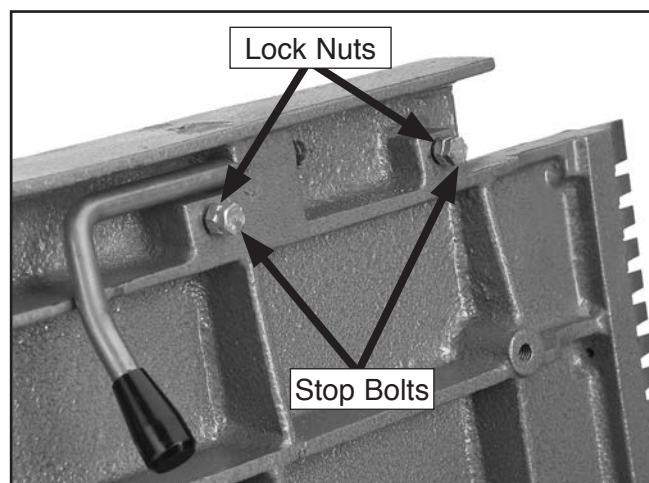

Figure 69. Location of outfeed table stop bolts and lock nuts.
1. Loosen the lock nuts on both stop bolts shown in **Figure 69** at the front of the table.